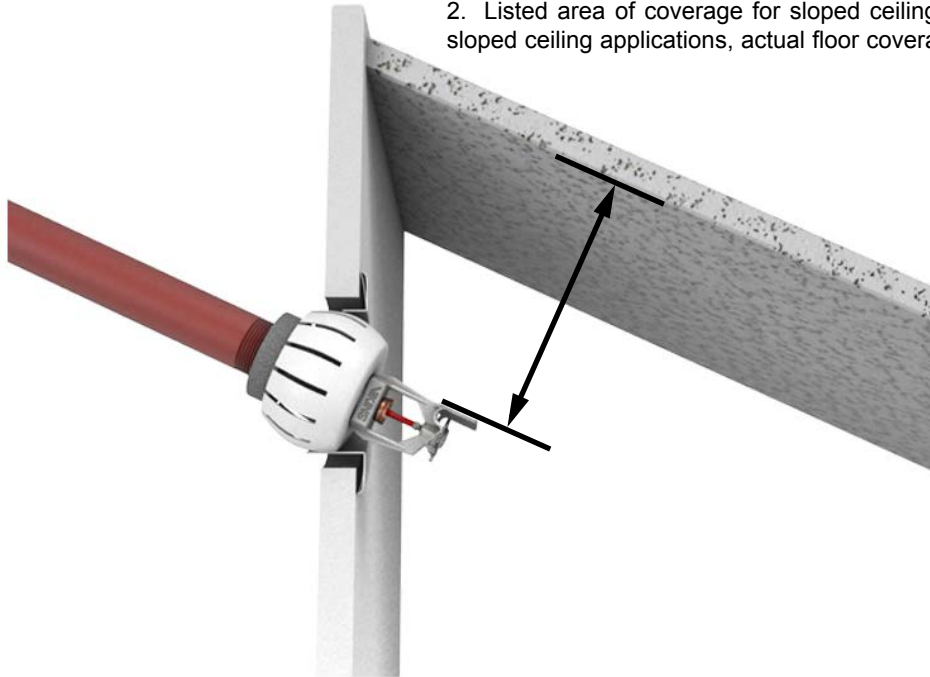

Figure 6: Model G-1 Recessed Escutcheon Installed with an EC HSW Sprinkler below a sloped ceiling.
Sprinkler VK609 (Base Part No. 13971) for Quick Response - QREC Specific Application - Maximum 175 PSI WWP For installation with the deflector located 4" to 6" (102 mm to 152 mm) below sloped 8 ceilings with slopes from 2/12 through 4/12 (9.5° to 18.4°) pitch. Sprinkler must be located at the high-point intersection of the wall and the ceiling with spray directed down the slope. Refer to Figure 6.
8 Listed area of coverage measured along ceiling slope. Consult Figure 6 for installation notes.
- In sloped ceiling installations, sprinkler VK609 is listed for installation at the high-point intersection of the wall and the ceiling. In sloped ceiling installations, the spray must be directed down the slope. Spray may NOT be directed across the slope. Refer to Figure 6.
- Refer to the Approval Chart for required deflector distance below the ceiling. Install with the leading edge of the deflector oriented parallel to the ceiling (see Figure 6).